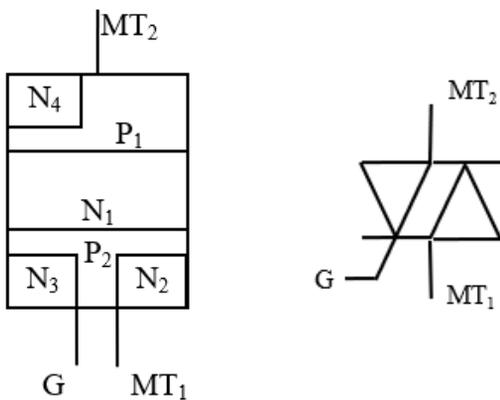

Figure 2.14: Construction of TRIAC and symbol
TRIAC is a 5-layer device that allows current flows in both directions (forward and reverse). Similar characteristic with SCR and can be triggered at the gate (G) by the positive or negative trigger voltage. Similar to two SCR is connected in parallel, back-to-back opposite direction. Anode terminal of SCR1 is connected to cathode terminal of SCR2 and vice versa. This terminal is labelled as MT1 (Main terminal 1) and MT2 (Main Terminal 2). Both SCR Gate terminal is combining as one terminal. Figure 2.14 shows the construction of TRIAC and its symbol